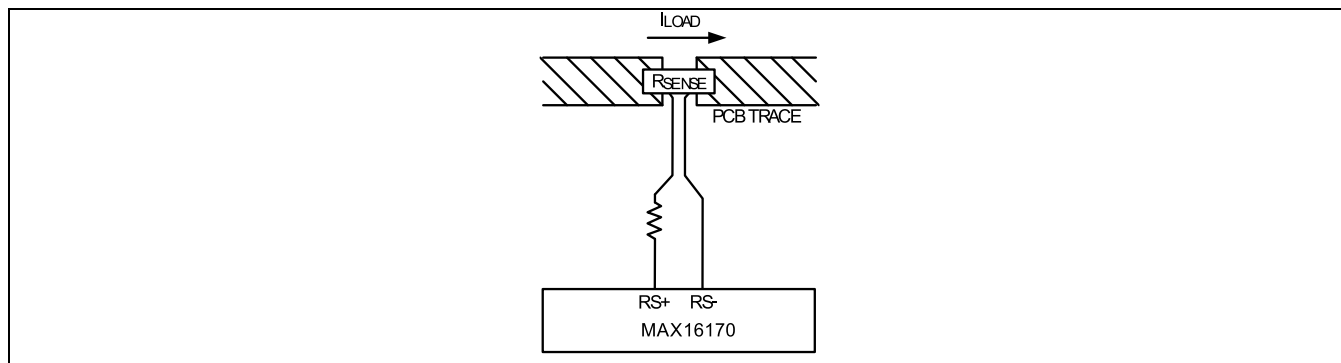

Figure 15. Kelvin Sensor Connection
5. Due to the high currents that may flow through  $R_{SENSE}$ , take care to eliminate solder and parasitic trace resistance from causing errors in the sense voltage. Either use a four-terminal current-sense resistor or use Kelvin (force and sense) PCB layout techniques. Figure 15 shows a typical routing of Kelvin-sensed traces to RS+ and RS- pins. The Kelvin sense traces should be as close as possible to the current-sense resistor's solder contact pads.